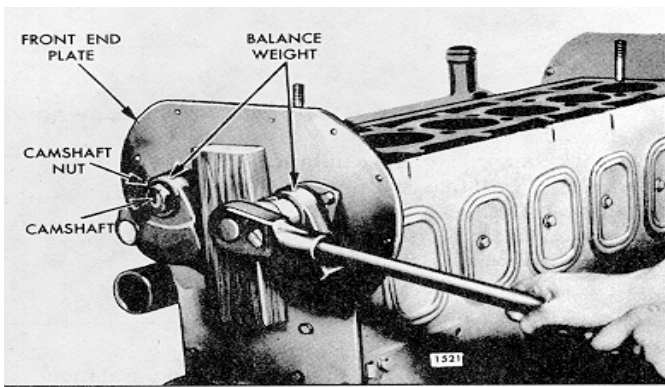

Fig. 3 - Loosening Nut on Camshaft or Balance Shaft
2. Place a block of Wood between the balance weights to prevent rotation (Fig. 3).